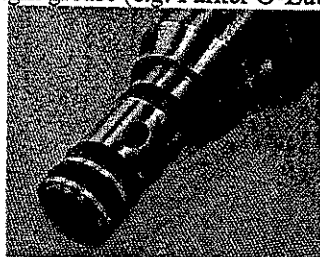

FIG 4. Breakaway Module O-Rings
- Step 3. Inspect both parts of the Breakaway. Make sure that the o-ring seals have not been damaged (Slits or rough spots) (Figure 4). If so, please contact Sherex/OPW customer service for replacement o-rings. For the ILB-1, ILB-H and ILB-2 order o-ring P/N 42020. For the ILB-5 and ILB-6 order o-ring P/N 42007. If the Breakaway Module is damaged or missing, a replacement kit is available as well. If the o-rings are dry lubricate them with light grease (e.g. Parker O-Lube ®) or mild soap before re-assembly.